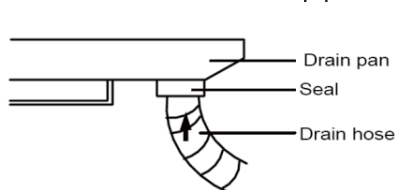

Figure 3-1-57
- (1) For determining the position of the drain hose, perform the following procedures.
- (2) Insert the drain pipe to the drain outlet of the unit and then tighten the clamp securely with tape. (Figure 3-1-57)
- (3) Connect the extension drain pipe to the drain pipe and then tighten the clamp with tape.